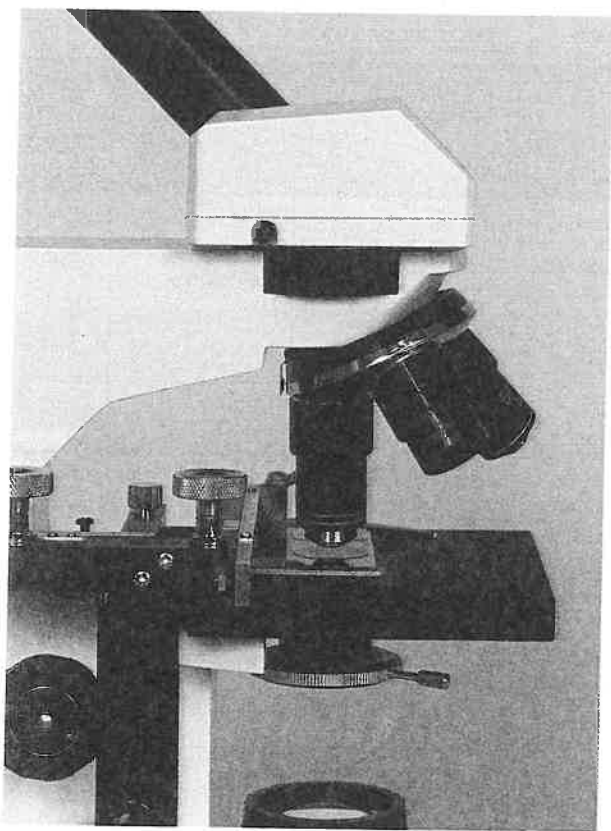

Figure 4.3 When you focus using a particular objective, you can prevent it from touching the specimen by watching from the side.
- c. While you watch from the side to prevent the lens from touching anything, raise the stage until the objective is as close to the ruler as possible, using the *coarse adjustment knob* and then using the *fine adjustment knob* (fig. 4.3). (Note: The adjustment knobs on some microscopes move the body and objectives downward and upward for focusing.)